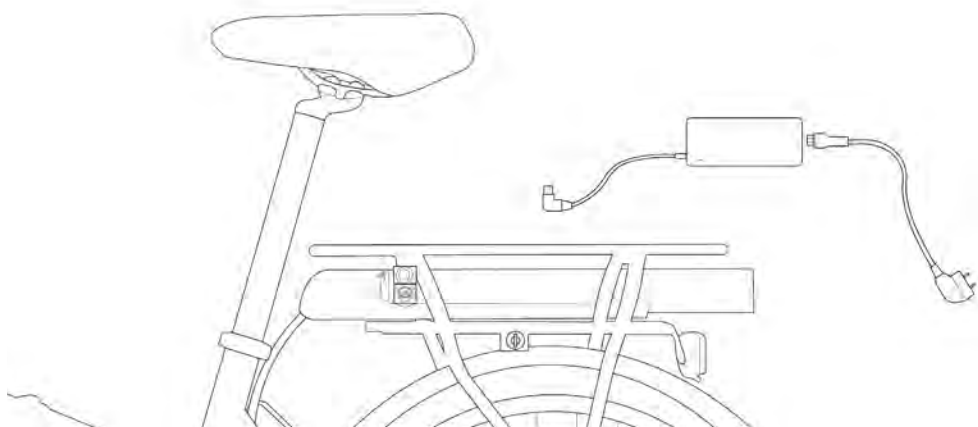

FIG. 10
- 3- Lift the rubber cap on the appropriate battery charging socket, located on the left side of the same (Figure 10);